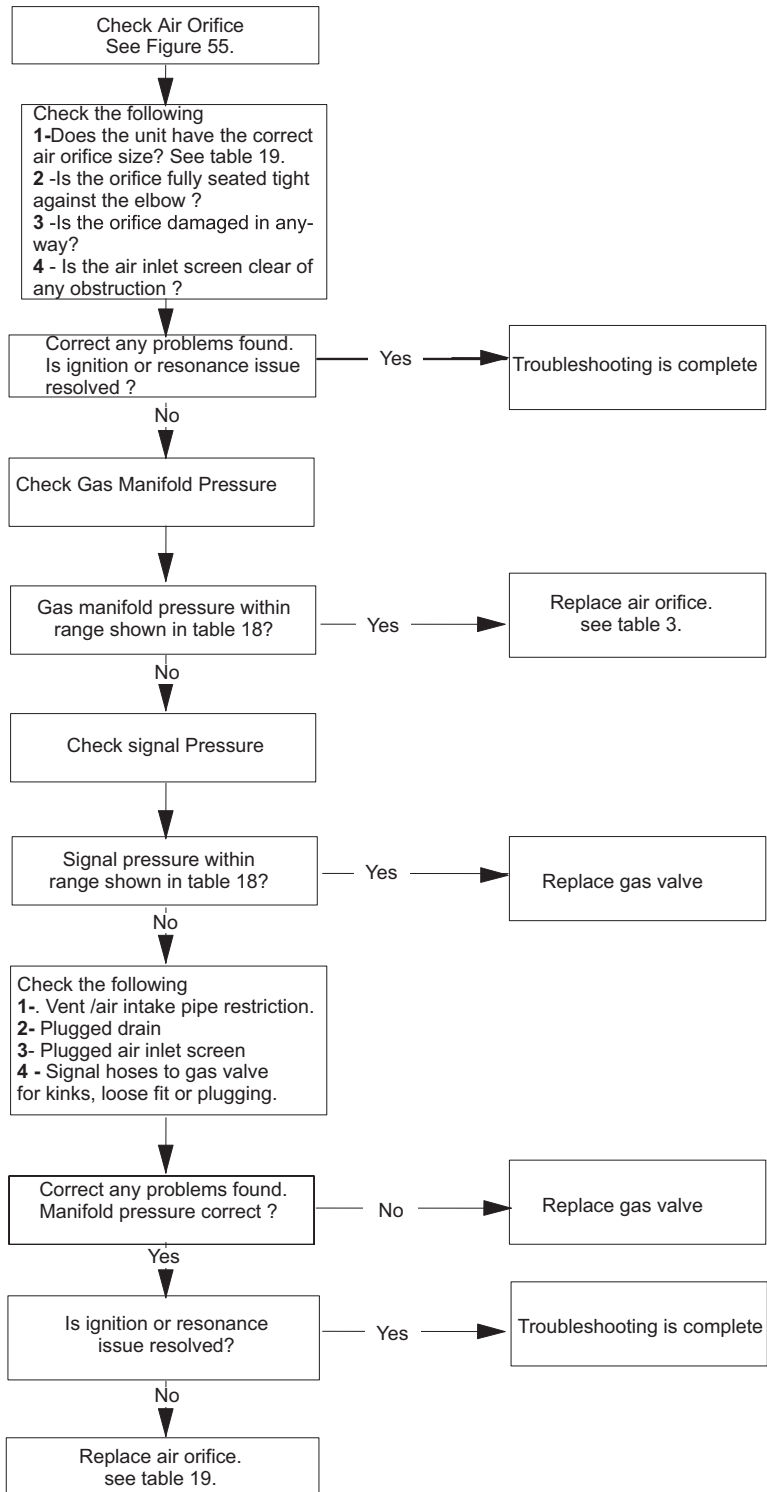

**FIGURE 56**
- 3 - Install hoses and meter as shown in figure 56 for signal pressure measurement.